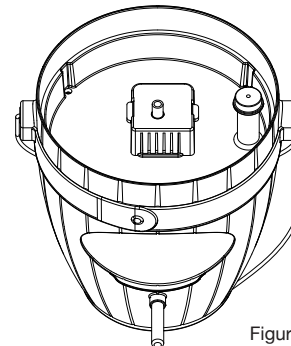

Figure 2
3. Turn the Bird Feeder right side up and set battery compartment next to Bird Feeder housing (Figure 2).